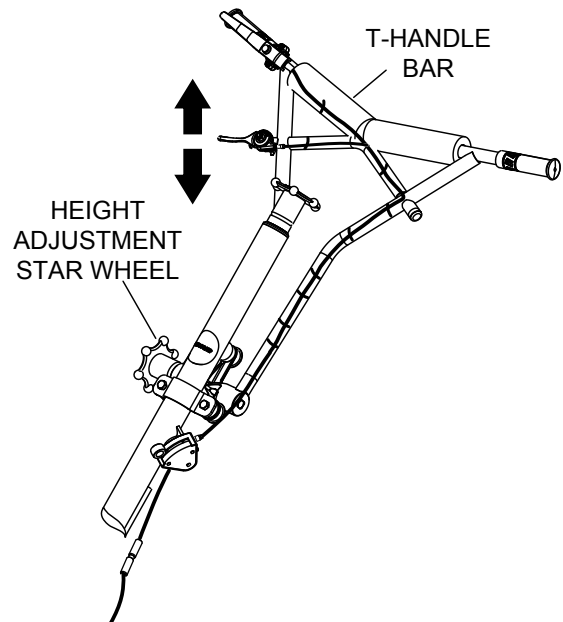

Figure 4. T-Handle Bar Adjustment
3. If readjustment is necessary, loosen the star wheel as shown in Figure 4 and move the upper handle to the desired position.